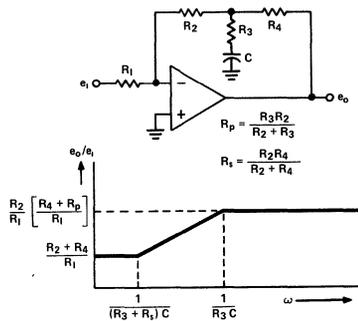

Figure 3. DC Feedback Minimizes Output Offset for AC Applications
1. *Is dc coupling required?* If dc information is of no consequence, then the offset drift errors are not usually important and a capacitor can be used if necessary to block the output dc offset. Your only concern here is that dc offset at the output does not become so large, as might be the case with a high gain stage, that the output is saturated or the dynamic swing for ac signals is limited. One way to circumvent the latter problem is to use feedback to limit the gain at dc as shown in Figure 3. The gain of this kind of circuit can be small at dc but large at high frequencies.